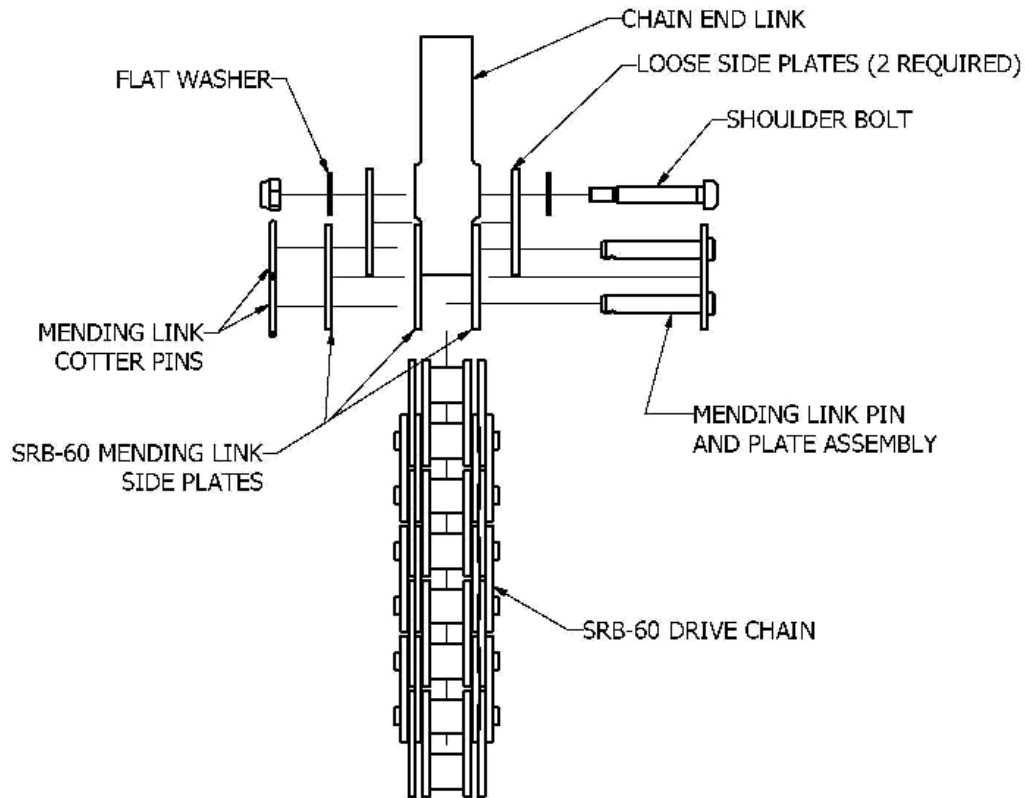

Figure 10: Terminating the drive chain.
3. Attach the Chain End Link to the end of the Drive Chain as seen in figure 10.
- 5 Remove the Chain End Link from the bottom of the arbor and attach it to the chain as shown in Figure 10.